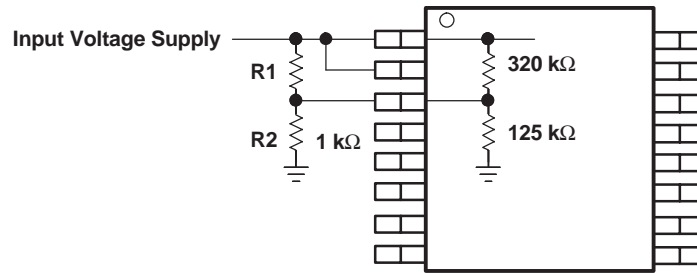

Figure 1. Circuit Using External UVLO Function
accurate, but the absolute values of the internal resistors may vary as much as 15%. If high accuracy is required for an externally adjusted UVLO threshold, select lower value external resistors to set the UVLO threshold. Using a 1-kΩ resistor for the low side resistor (R2 see Figure 1) is recommended. Under no circumstances should the UVLO pin be connected directly to VIN.
For applications which require an undervoltage lock out (UVLO) threshold greater than 4.49 V, external resistors may be implemented, see Figure 1, to adjust the start voltage threshold. For example, an application needing an UVLO start voltage of approximately 7.8 V using the equation (1), R1 is calculated to the nearest standard resistor value of 5.36 kΩ. Using equation (2), the input voltage stop threshold is calculated as 6.48 V.